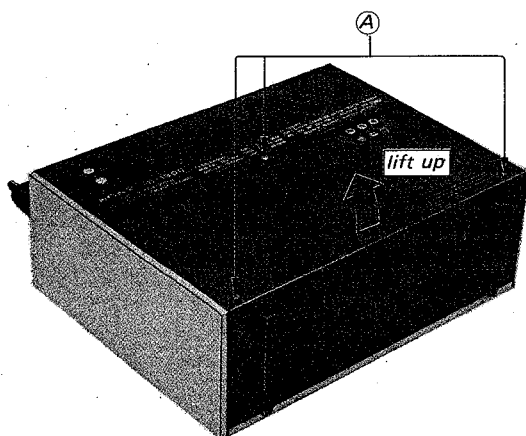

Fig. 2-1 Rear cabinet removal
2. Remove the three screws labeled (A) in Fig. 2-1.